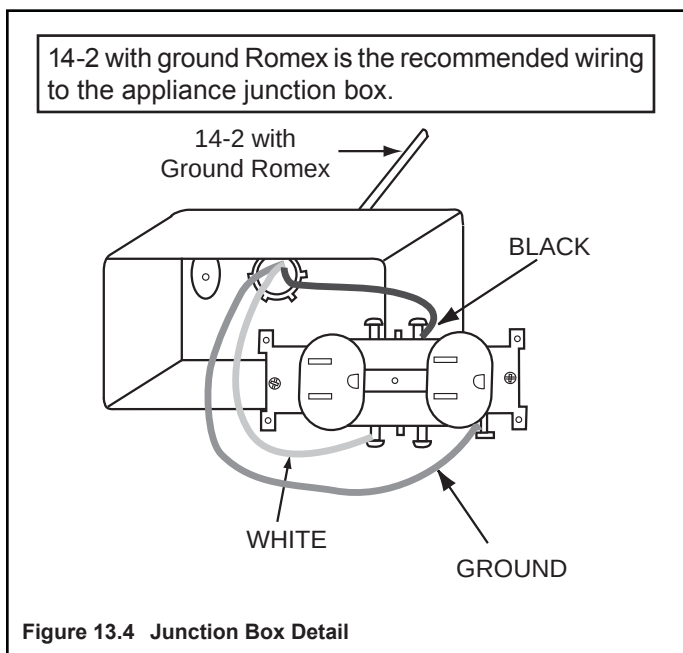

Figure 13.4 Junction Box Detail
- Make all wire connections to receptacle as shown in Figure 13.4.